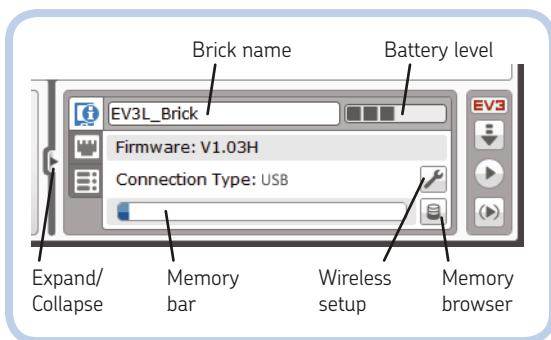

Figure 5-5: The Brick Information tab of the Hardware Page
* **Brick Information tab** (Figure 5-5): When the EV3 Brick is connected, use this tab to check the battery level, the amount of memory available, and the firmware version of the EV3 Brick. You can change the name of the EV3 Brick, set up the wireless network, and browse files in the EV3 Brick's memory.